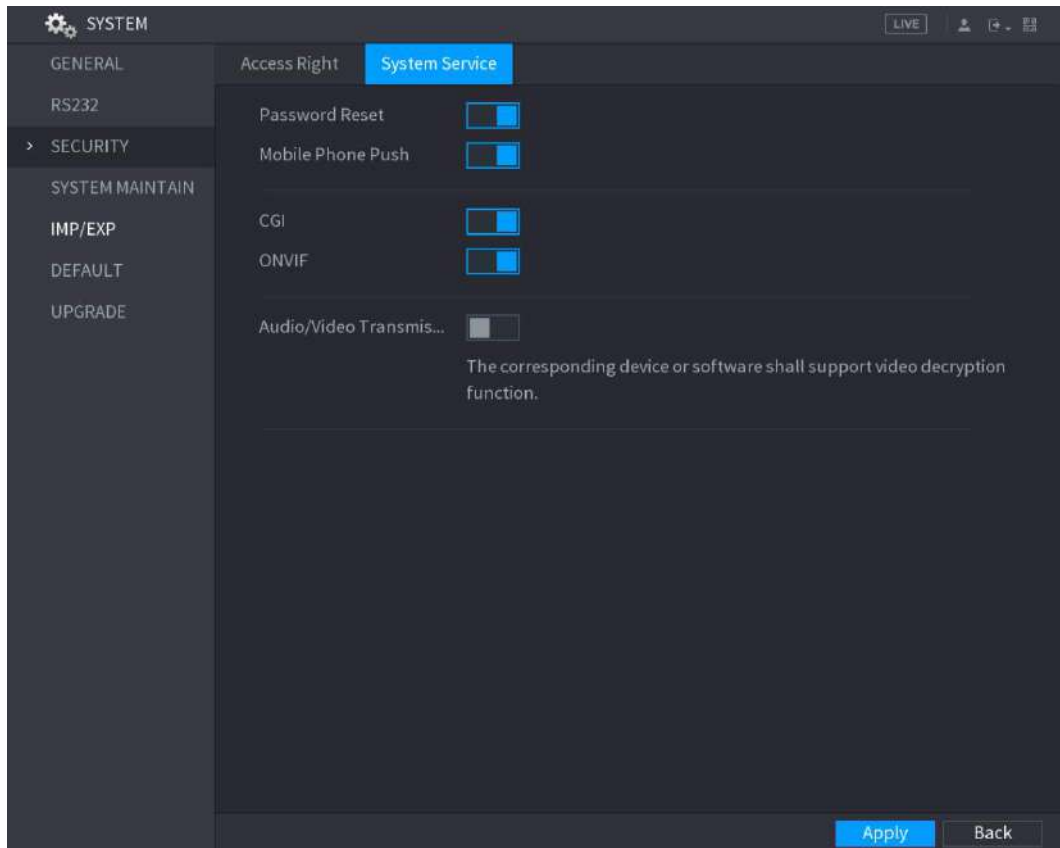

Figure 5-4
Step 1 Select **Main Menu > SYSTEM > SECURITY > System Service**, the **System Service** interface is displayed. See Figure 5-4.